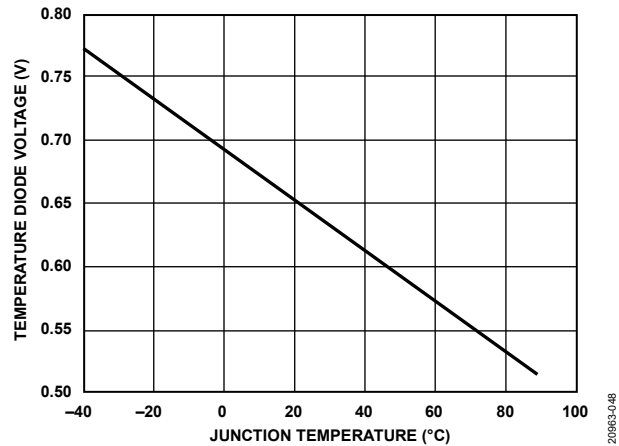

Figure 54. Temperature Diode Voltage vs. Junction Temperature
4. Set Register 0x18E6 to 0x01 to turn on the voltage export of the central 1× temperature diode. The typical voltage response of the temperature diode is shown in Figure 54. Although this voltage represents the die temperature, take measurements from a pair of diodes for improved accuracy.